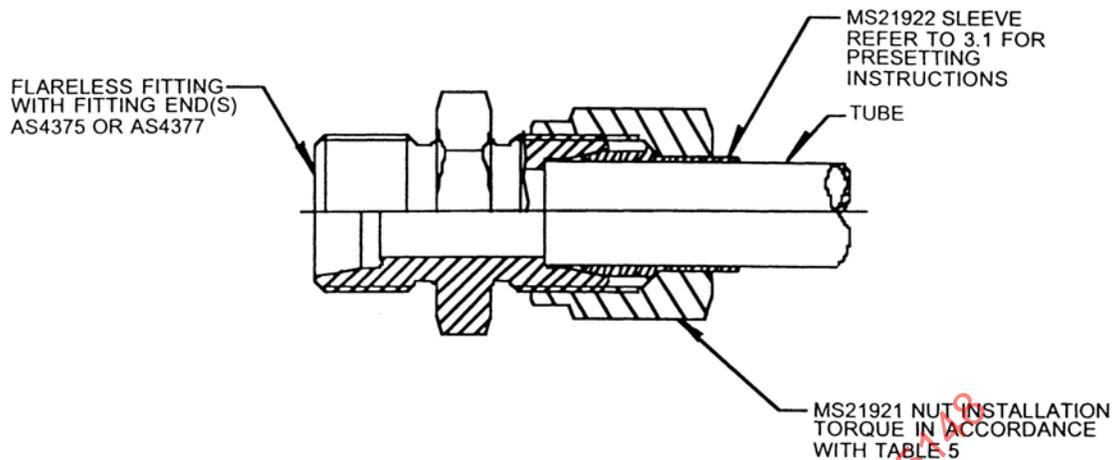

FIGURE 1 - Bite Type Flareless Sleeve Tube Assembly
3. FLARELESS TUBE FITTINGS AND BITE TYPE SLEEVE (FIGURE 1):